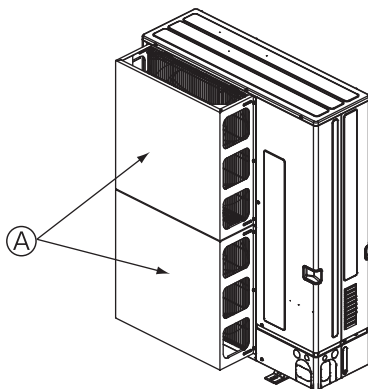

Fig. 12-1-2a
- ① Install an optional air protect guide if the unit is installed in a location where strong winds from a typhoon, etc. may directly enter the air outlet. (Fig. 12-1-2a, c)